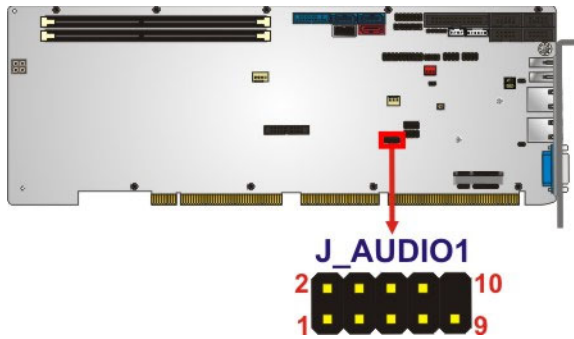

Figure 3-4: Audio Kit Connector Location
- CN Location:** See Figure 3-4